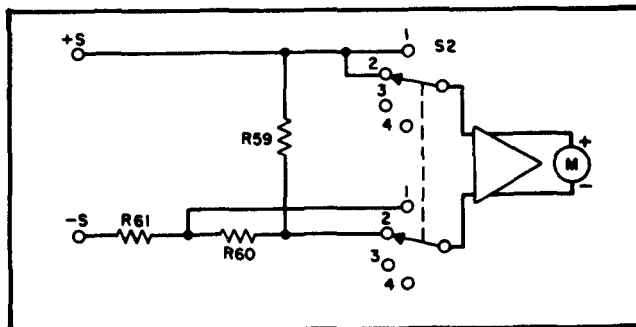

Figure 4-3. Voltmeter Connections, Simplified Schematic
4-40 Figures 4-3 and 4-4 show the meter connections when the METER section of S2 is in the higher voltage and current range positions, respectively. For the sake of simplicity, some of the actual circuit components are not shown on these draw. With the METER switch in the higher voltage range, position 2, the voltage drop across R59 is the input to the meter amplifier and the meter indicates the output voltage across the +S and -S terminals. For low output voltages, S2 can be switched to the low voltage position (1) resulting in the application of a larger percentage of the